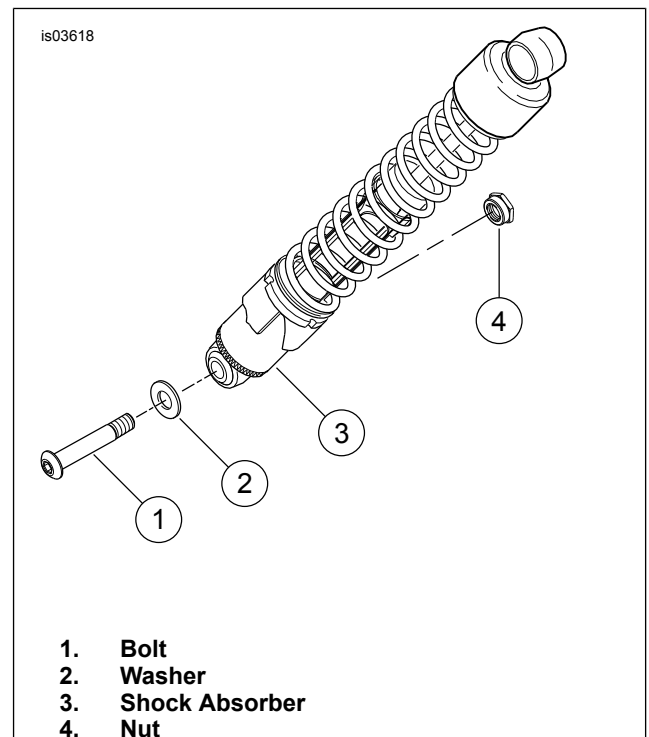

Figure 1. Rear Shock Absorber - Right Side Shown
3. See Figure 1. Disconnect the rear shock absorbers from the swing arm by removing bolt (1), washer (2) and nut (4) from the shock absorber (3). Repeat steps for the opposite side.
1. See Figure 3. Remove the rear shock absorber bolt (Figure 1, Item 1). Position the 0.531 x 0.75 x 0.75 in spacer (7) and the front saddlebag bracket attachment hole over the rear shock absorber bolt location. Secure with the 1/2-13 x 4.00 in screw (5).
7. Place saddlebag in position on bracket. Insert the new screw (14) into the bracket. Do not tighten.
11. See Figure 1. Attach rear shock absorber to swingarm by installing bolt (1), washer (2) and nut (4). Tighten bolt to 61.1–67.9 N·m (45–50 ft-lbs). Repeat steps for opposite side.